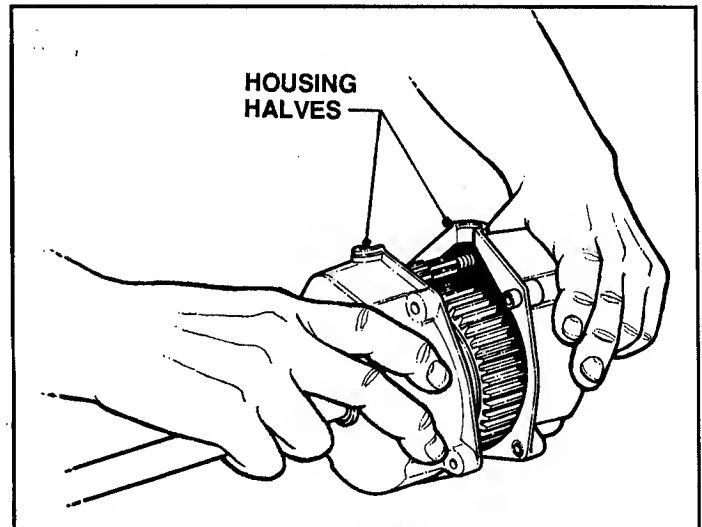

**FIGURE 4.2**
1. Remove differential bracket and poly v-pulley. See Figures 4.2 & 4.3.